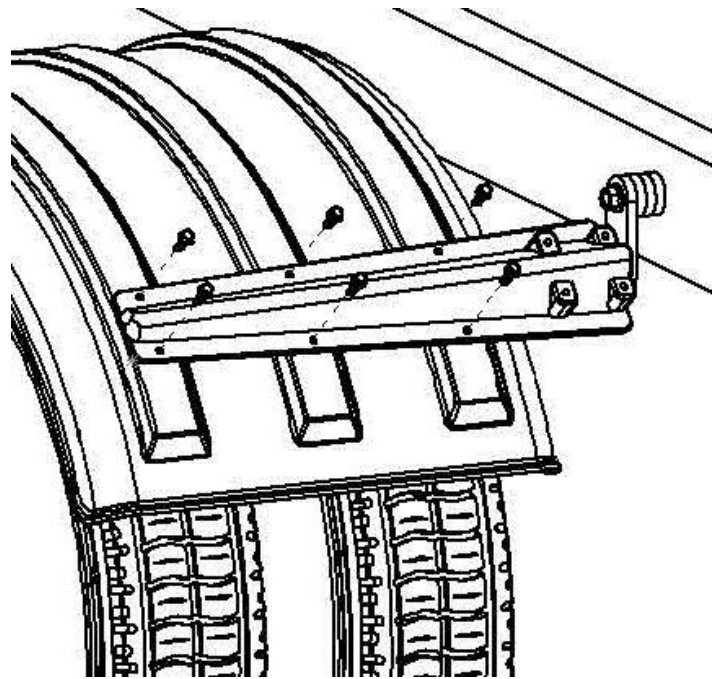

Figure 9
- Install the 5/16" x 1" bolts through the bracket and into the fender (Figure 9).